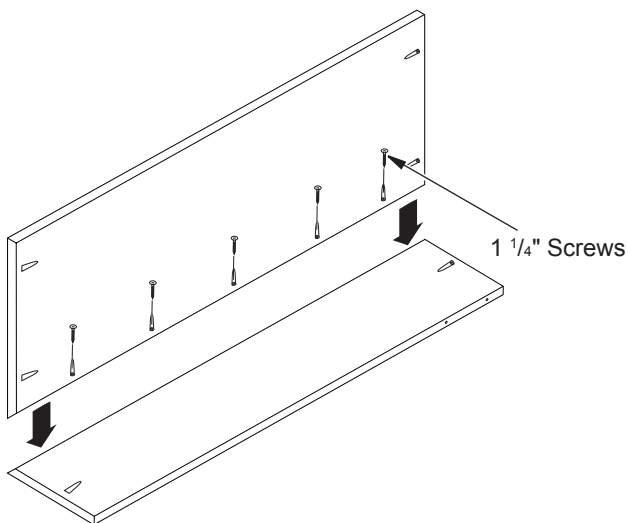

Figure 1 - Assembling Legs
1. Some models require side/corner assembly. For these models, lay leg side on floor. Position leg as shown in Figure 1. Align bottom and attach with screws provided. Repeat for other side.